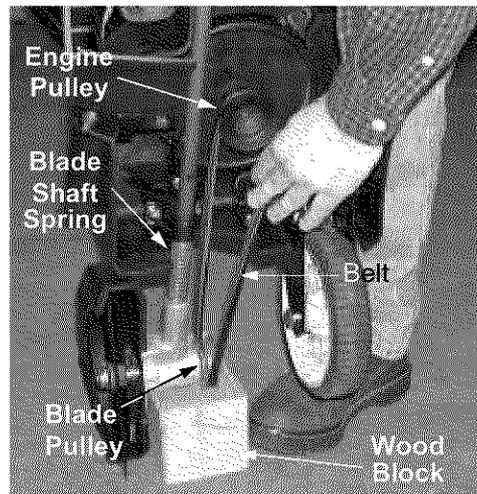

Figure 21
3. Place a block of wood on the floor and tip the unit forward resting the blade spindle housing on the block of wood. Apply force down to compress the spring on the blade shaft. Remove the belt from the engine pulley, then lift belt off blade pulley. See Figure 21.
4. Reinstall the replacement belt in the reverse order of disassembly. Refer to Figure 21 for positioning of belt.